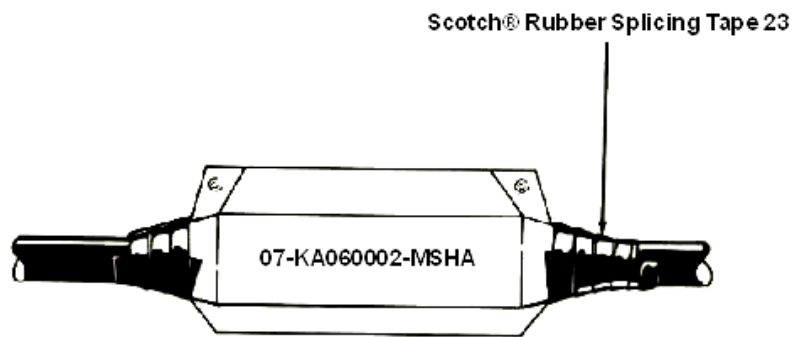

Figure 5
- 5.2 Center mold over splice and tape into place by applying Scotch® Rubber Splicing Tape 23 (provided in kit) over the mold ends and onto the cable. (Figure 5)